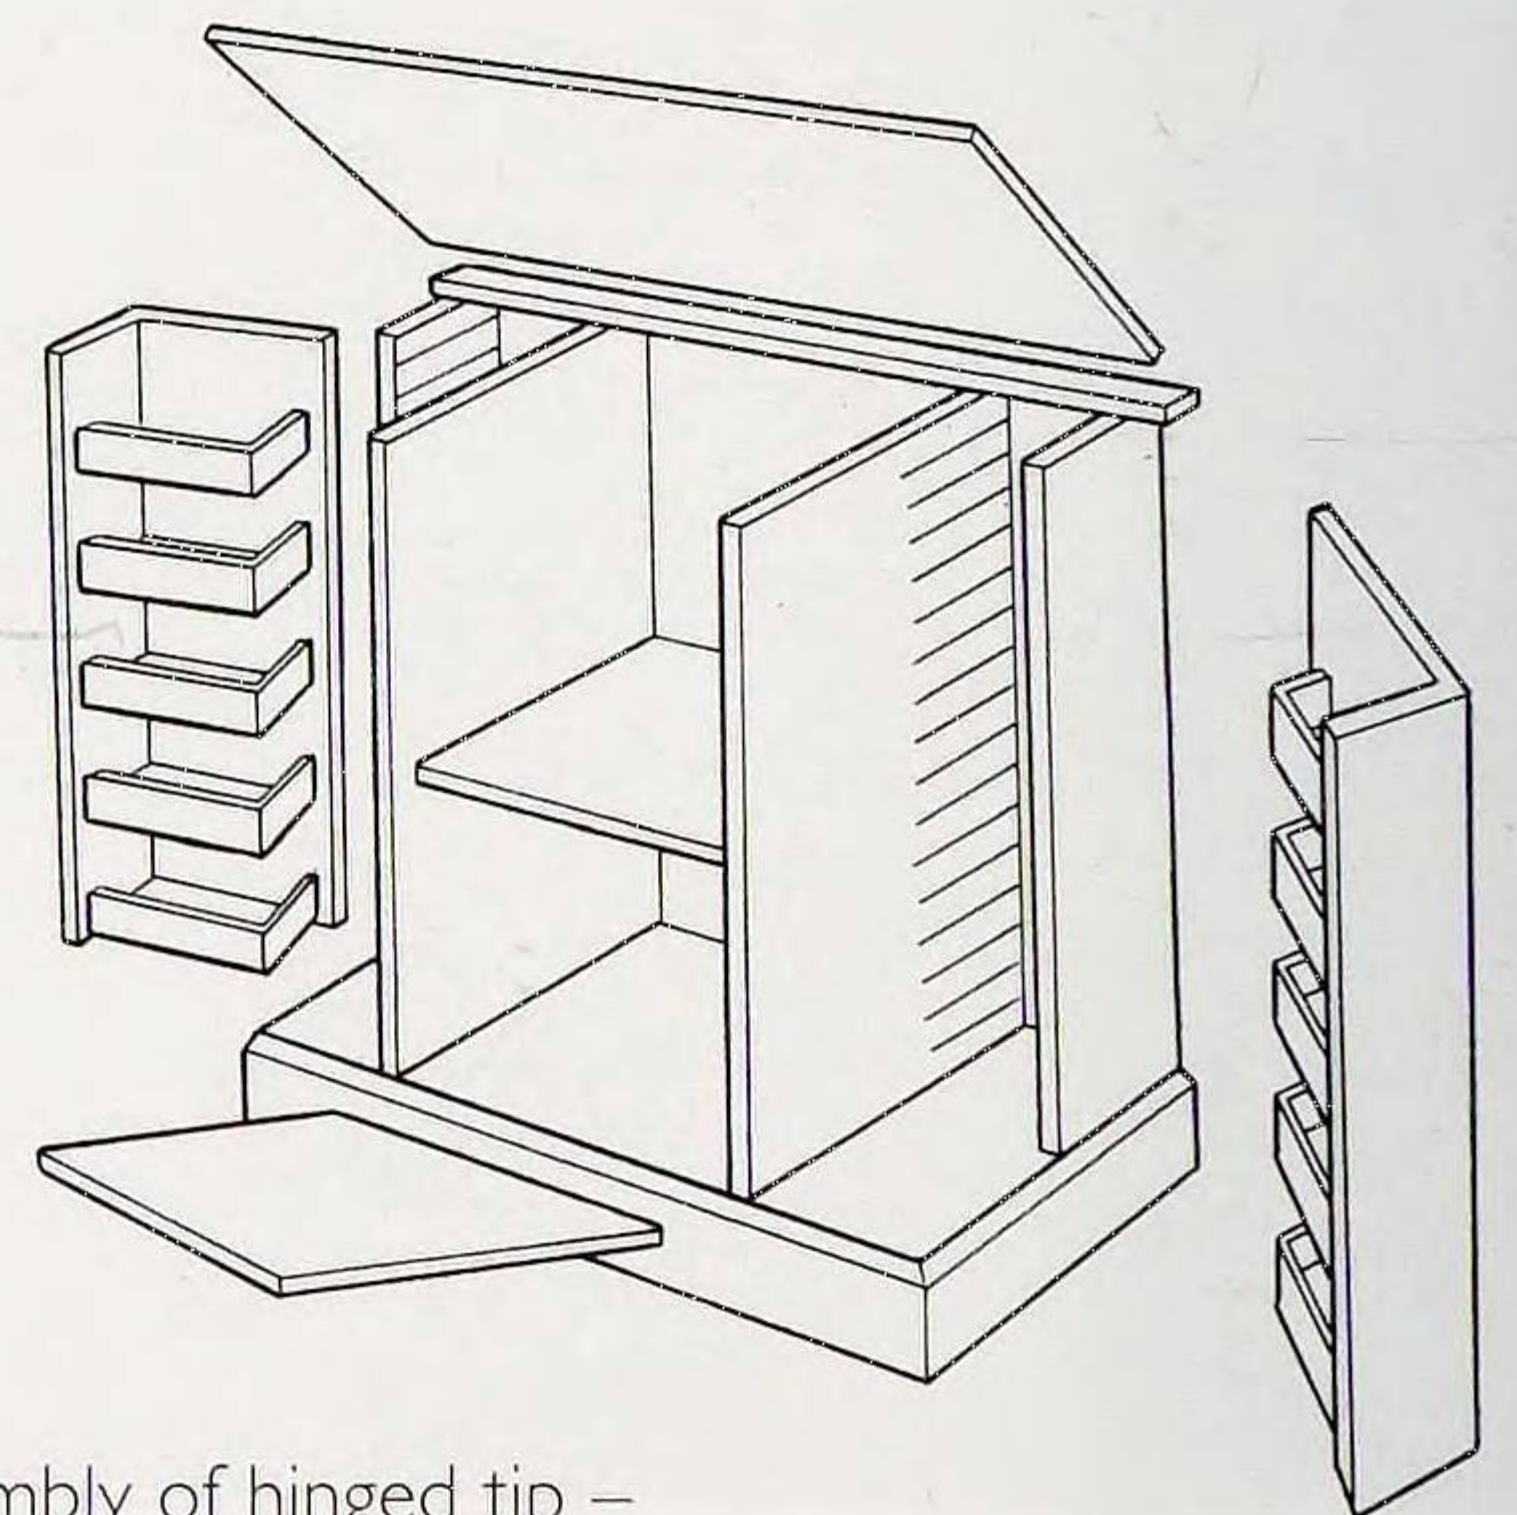

Fig. 7 Final assembly of hinged top - front fall and right-hand and left-hand L-shaped doors
10. All the components should now be ready for final assembly to the main structure. First, hinge the two opening front doors, then the front door of the LP cabinet, and finally the hinged top (Fig. 7). You will probably then have to do some fine fitting. The cabinet work should now be completed.